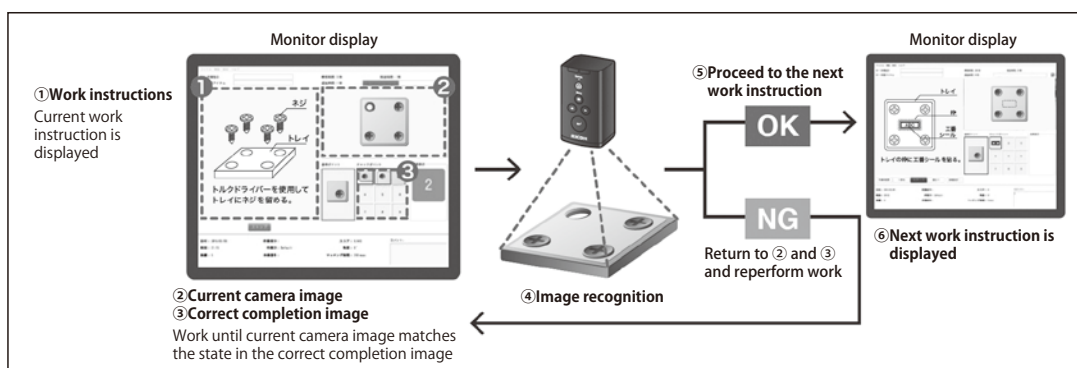

Fig.3 Monitor display and flow of work instruction
- Mistakes during the working process are prevented by halting progress to the next stage until work is recognized as correct during image recognition checks. Users decrease mistakes during the assembly process increasing production efficiency (Fig.3).